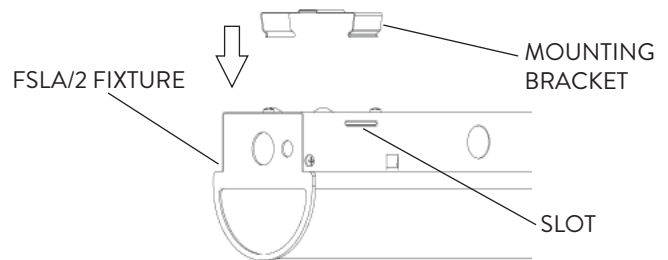

FIG. 7
- 2 Install the Mounting Brackets to the FSLA/2 fixture Slots by pressing down on each side (Fig. 7).